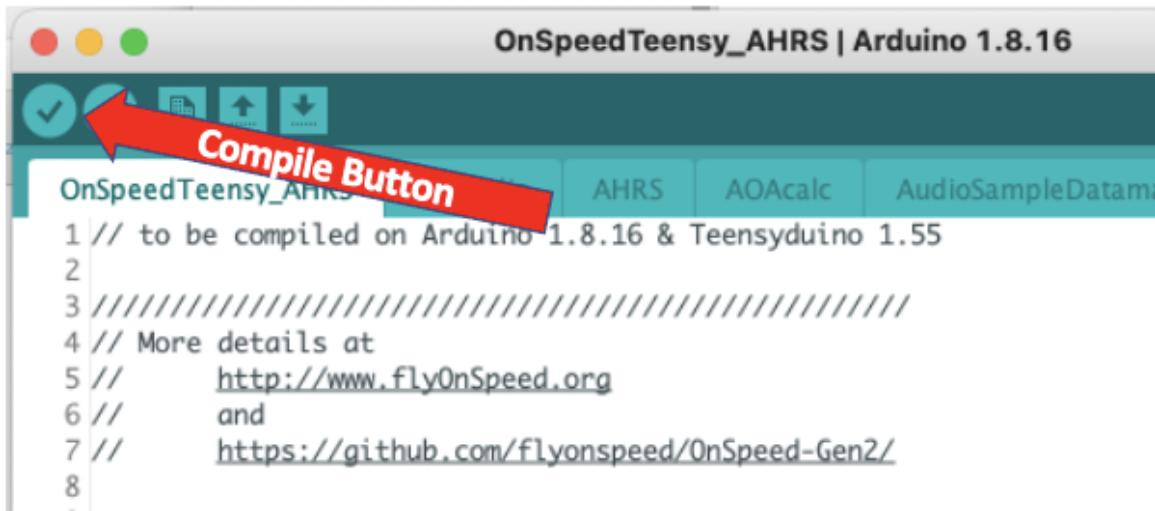

Figure 26. The compile icon in the Arduino IDE.
*What is “compiling?”* A “compiler” is a program that translates the Arduino programming code into language that the CPU and WiFi chips understand. The ONSPEED code is written using the Arduino/Teensyduino IDE, compiled, and THEN uploaded. Any time the software fails to compile, it will not upload, usually because a board type or library isn't set properly. The Arduino/Teensyduino IDE has a compile function that allows you to check software prior to uploading. That is the round, check mark icon in the upper left of the command bar at the top of the display (Figure 26). If you click on this icon, the software will compile but not upload. As implied by the design of the icon, the purpose of this function is to simply check to see everything is set correctly.